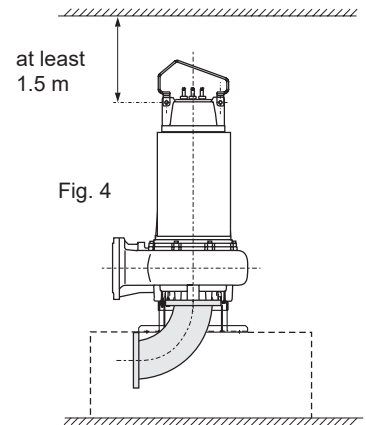

Fig. 4
- 1 - Electric pump with vertical rotor axis, on a support foot with flanged elbow on the suction side (fig. 4). To handle the machine, remove the handle and reassemble it in the other position so that the machine axis is vertical when lifted.